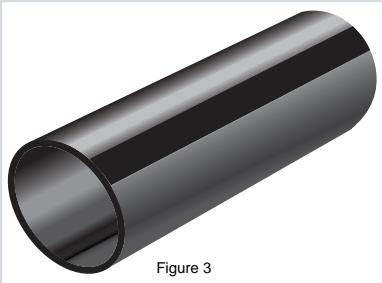

Figure 3
3. Measure 2" on each side of the longitudinal seam just joined and transfer a mark. Center a 4" wide piece of tape along the outside of the seam on the poly side (Figure 3) prior to installing into the duct.